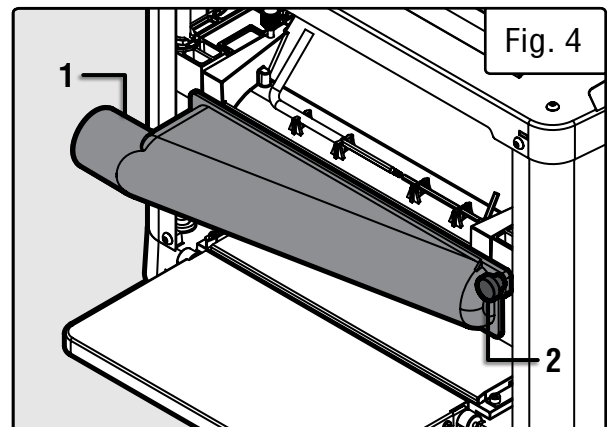

Fig. 4
2. Mount the dust chute (Fig. 4 - 1) to the rollercase using the two included knobs (Fig. 4 - 2).